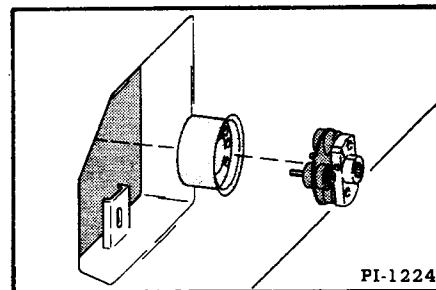

Fig. 149 Removing Coupling & Adapter
2. Remove the pump coupling and pump drive adapter from the machine (Figure 149).